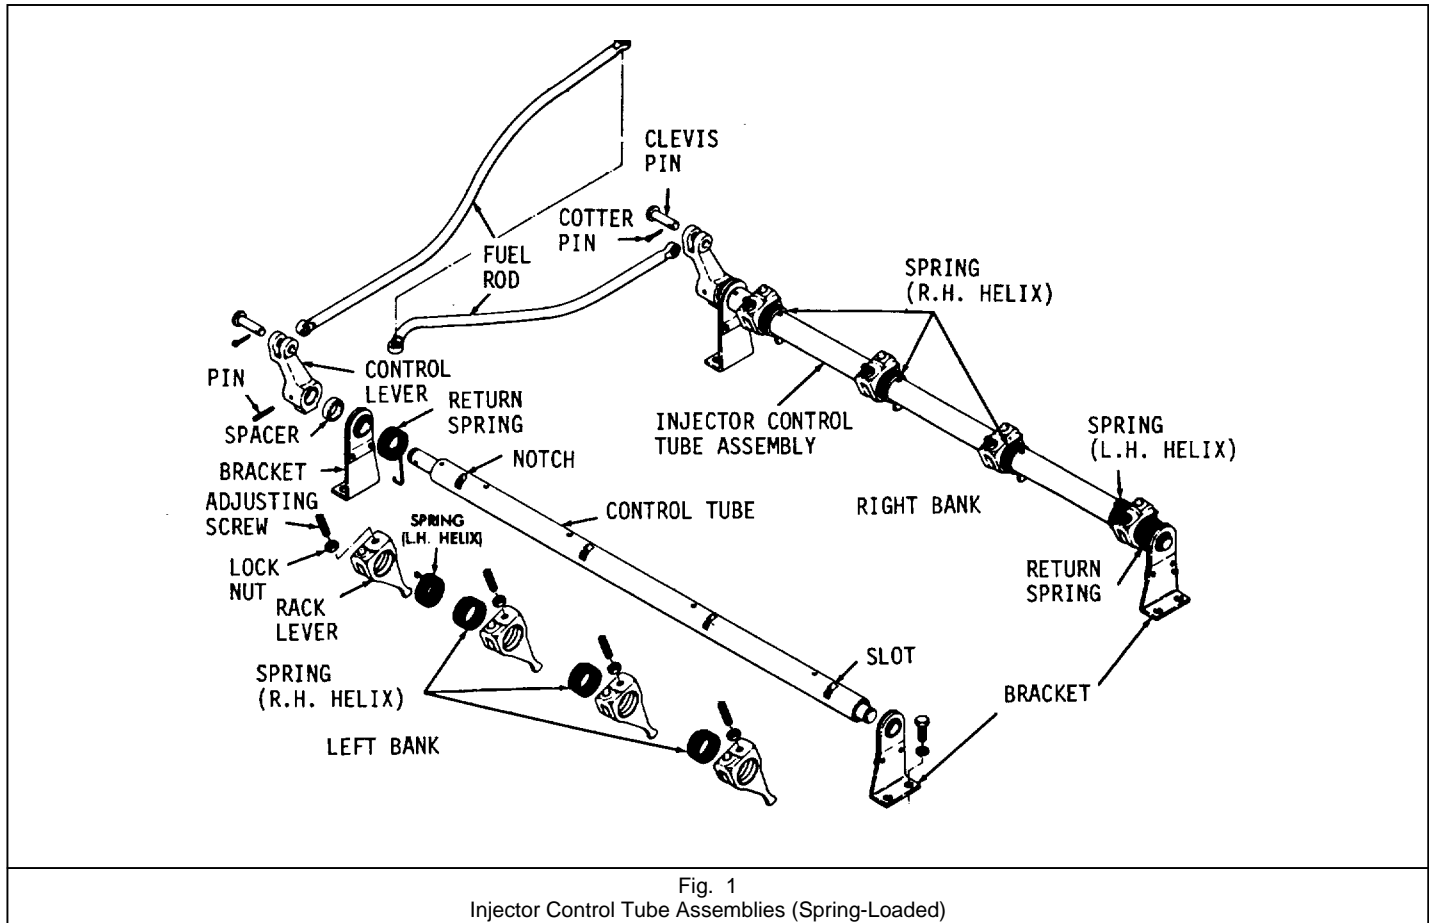

Fig. 1
- (7) Slide each fuel rod cover tube hose down on the cover tube attached to the cylinder heads and tighten the hose clamps.
- (8) Install and connect the crossover fuel oil line to each cylinder head and connect the fuel oil lines to the fuel pump.
- (9) Place the water bypass tube between the two thermostat housings and slide the hoses part way on the thermostat housings. Position the bypass tube so it clears the governor, fuel pump and fuel oil lines. Then tighten the hose clamps.
- (10) Install the fuel rods between the cylinder heads and the governor as follows:
- (b) Raise the connecting pin up in the control link operating lever (Fig. 1). Insert the end of the fuel rod between the two bosses on the lever and insert the connecting pin through the fuel rod and into the lower boss.
- (11) Affix a new gasket to the top of the governor housing. Place the governor cover assembly on the governor housing with the pin in the speed control shaft assembly in the slot of the differential lever and the dowel pins in the housing in the dowel pin holes in the cover.
- (12) Install the eight governor cover attaching screws and lock washers. Tighten the screws securely.
The fuel injector control tube assemblies (Fig. 1) are mounted on the left and right bank cylinder heads of an engine and consist of a control tube, injector rack control levers, a return spring and injector control tube lever mounted in two bracket and bearing assemblies attached to each cylinder head.
This engine uses spring loaded injector control tube assemblies (Fig. 1) that have a yield spring at each injector rack control lever and only one crew and lock nut to keep each injector rack properly positioned. This enables an engine to be brought to a lesser fuel position if there is an inoperative fuel injector rack. The above also permits the use of an air inlet housing with no emergency air shut-off valve as is required in some applications.